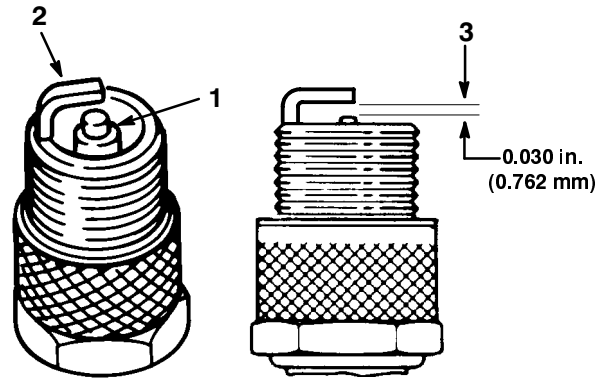

Figure 29
1. Look at the center of the spark plug (Fig. 29). If you see light brown or gray on the insulator, the engine is operating properly. A black coating on the insulator usually means the air cleaner is dirty.
2. Check the gap between the center and side electrodes (Fig. 29). Bend the side electrode (Fig. 29) if the gap is not correct.